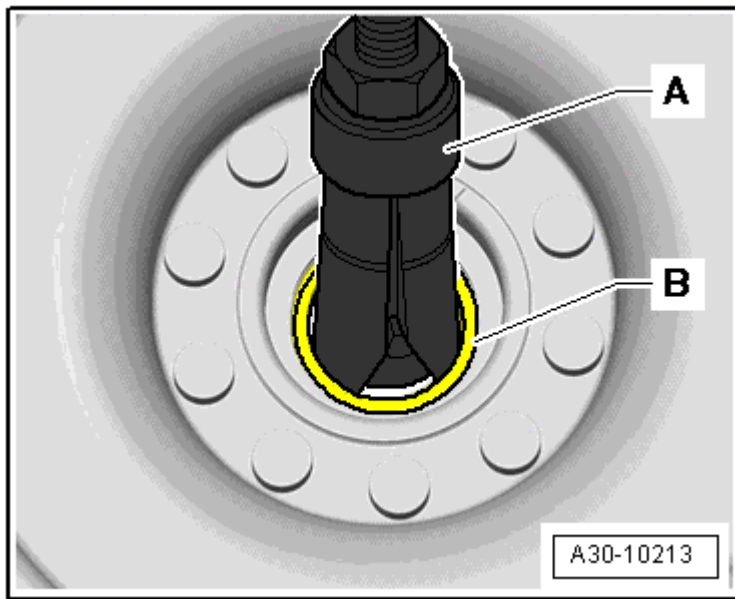

Fig. 39: Identifying Shaft Seal from the Dual Mass Flywheel, Removal
- Remove the shaft seal from the dual mass flywheel. Refer to **Fig. 39**.